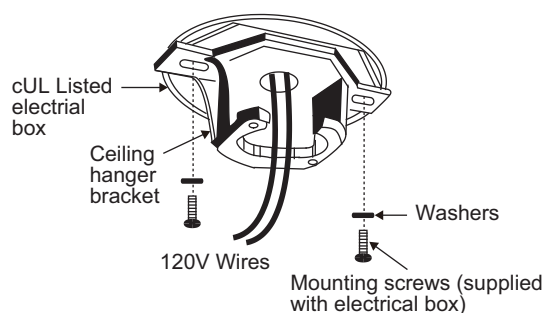

Fig. 6
Step 3. Pass the 120 volt supply wires from the ceiling outlet box through the center of the ceiling mounting bracket. (Fig. 6)
Step 4. Attach the ceiling mounting bracket to the outlet box using the screws and washers included with the outlet box. (Fig. 6)